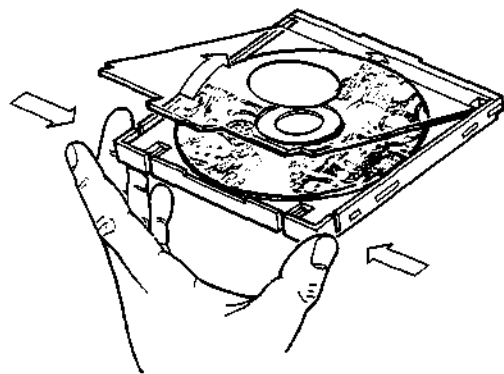

Figure 6. CD-ROM Installation (Early Systems)
3. Open the CD caddy by squeezing the sides whilst lifting the hinged door upwards (Fig 6).